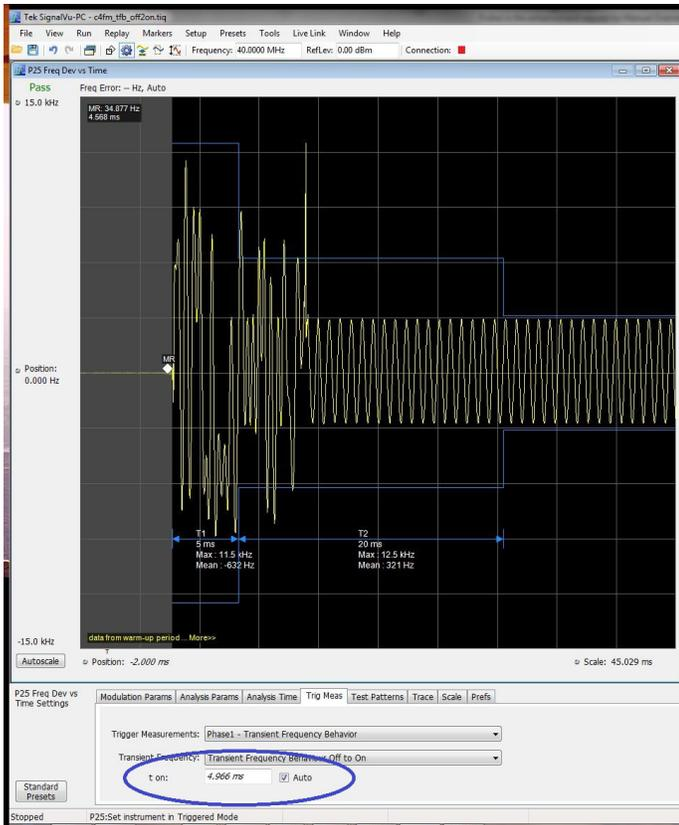

Figure 20. Transient Frequency Behavior measurement control.
- This measurement can be done for On to Off and Off to On case. The choice of which experiment is being performed needs to be selected by the user by choosing from a drop down that appears in the Trig Meas Tab of the settings panel. Please refer to Figure 20.
- The identification of t_{ON} is done by looking for a significant frequency deviation after a certain power level has been achieved. A manual override for the t_{ON} is also provided when Transient Frequency Behavior measurement is chosen in the Trigger Meas tab. Please refer to Figure 20. This allows the user to manually override the t_{ON} that is calculated (by releasing the Auto option) and place it as appropriate based on the Freq Dev vs Time display. The same holds good for t_{OFF} as well when the measurement is being done for On to Off case. t_1 and t_2 regions are identified after t_{ON} and t_3 before t_{OFF} (in case of ON to OFF)